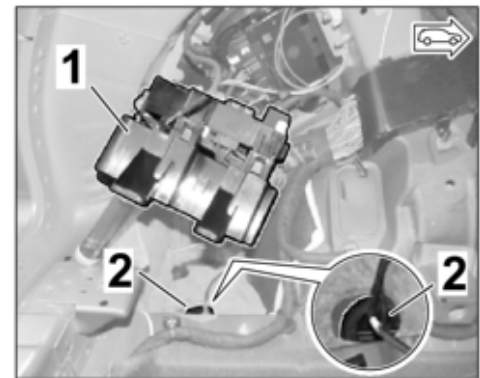

Figure 33
3.3.1 Loosen fuse box with holder in left rear trunk and swivel it aside (⇒ Figure 33). ⇒ Workshop Manual '978409 Loosening and securing fuse box in the boot'